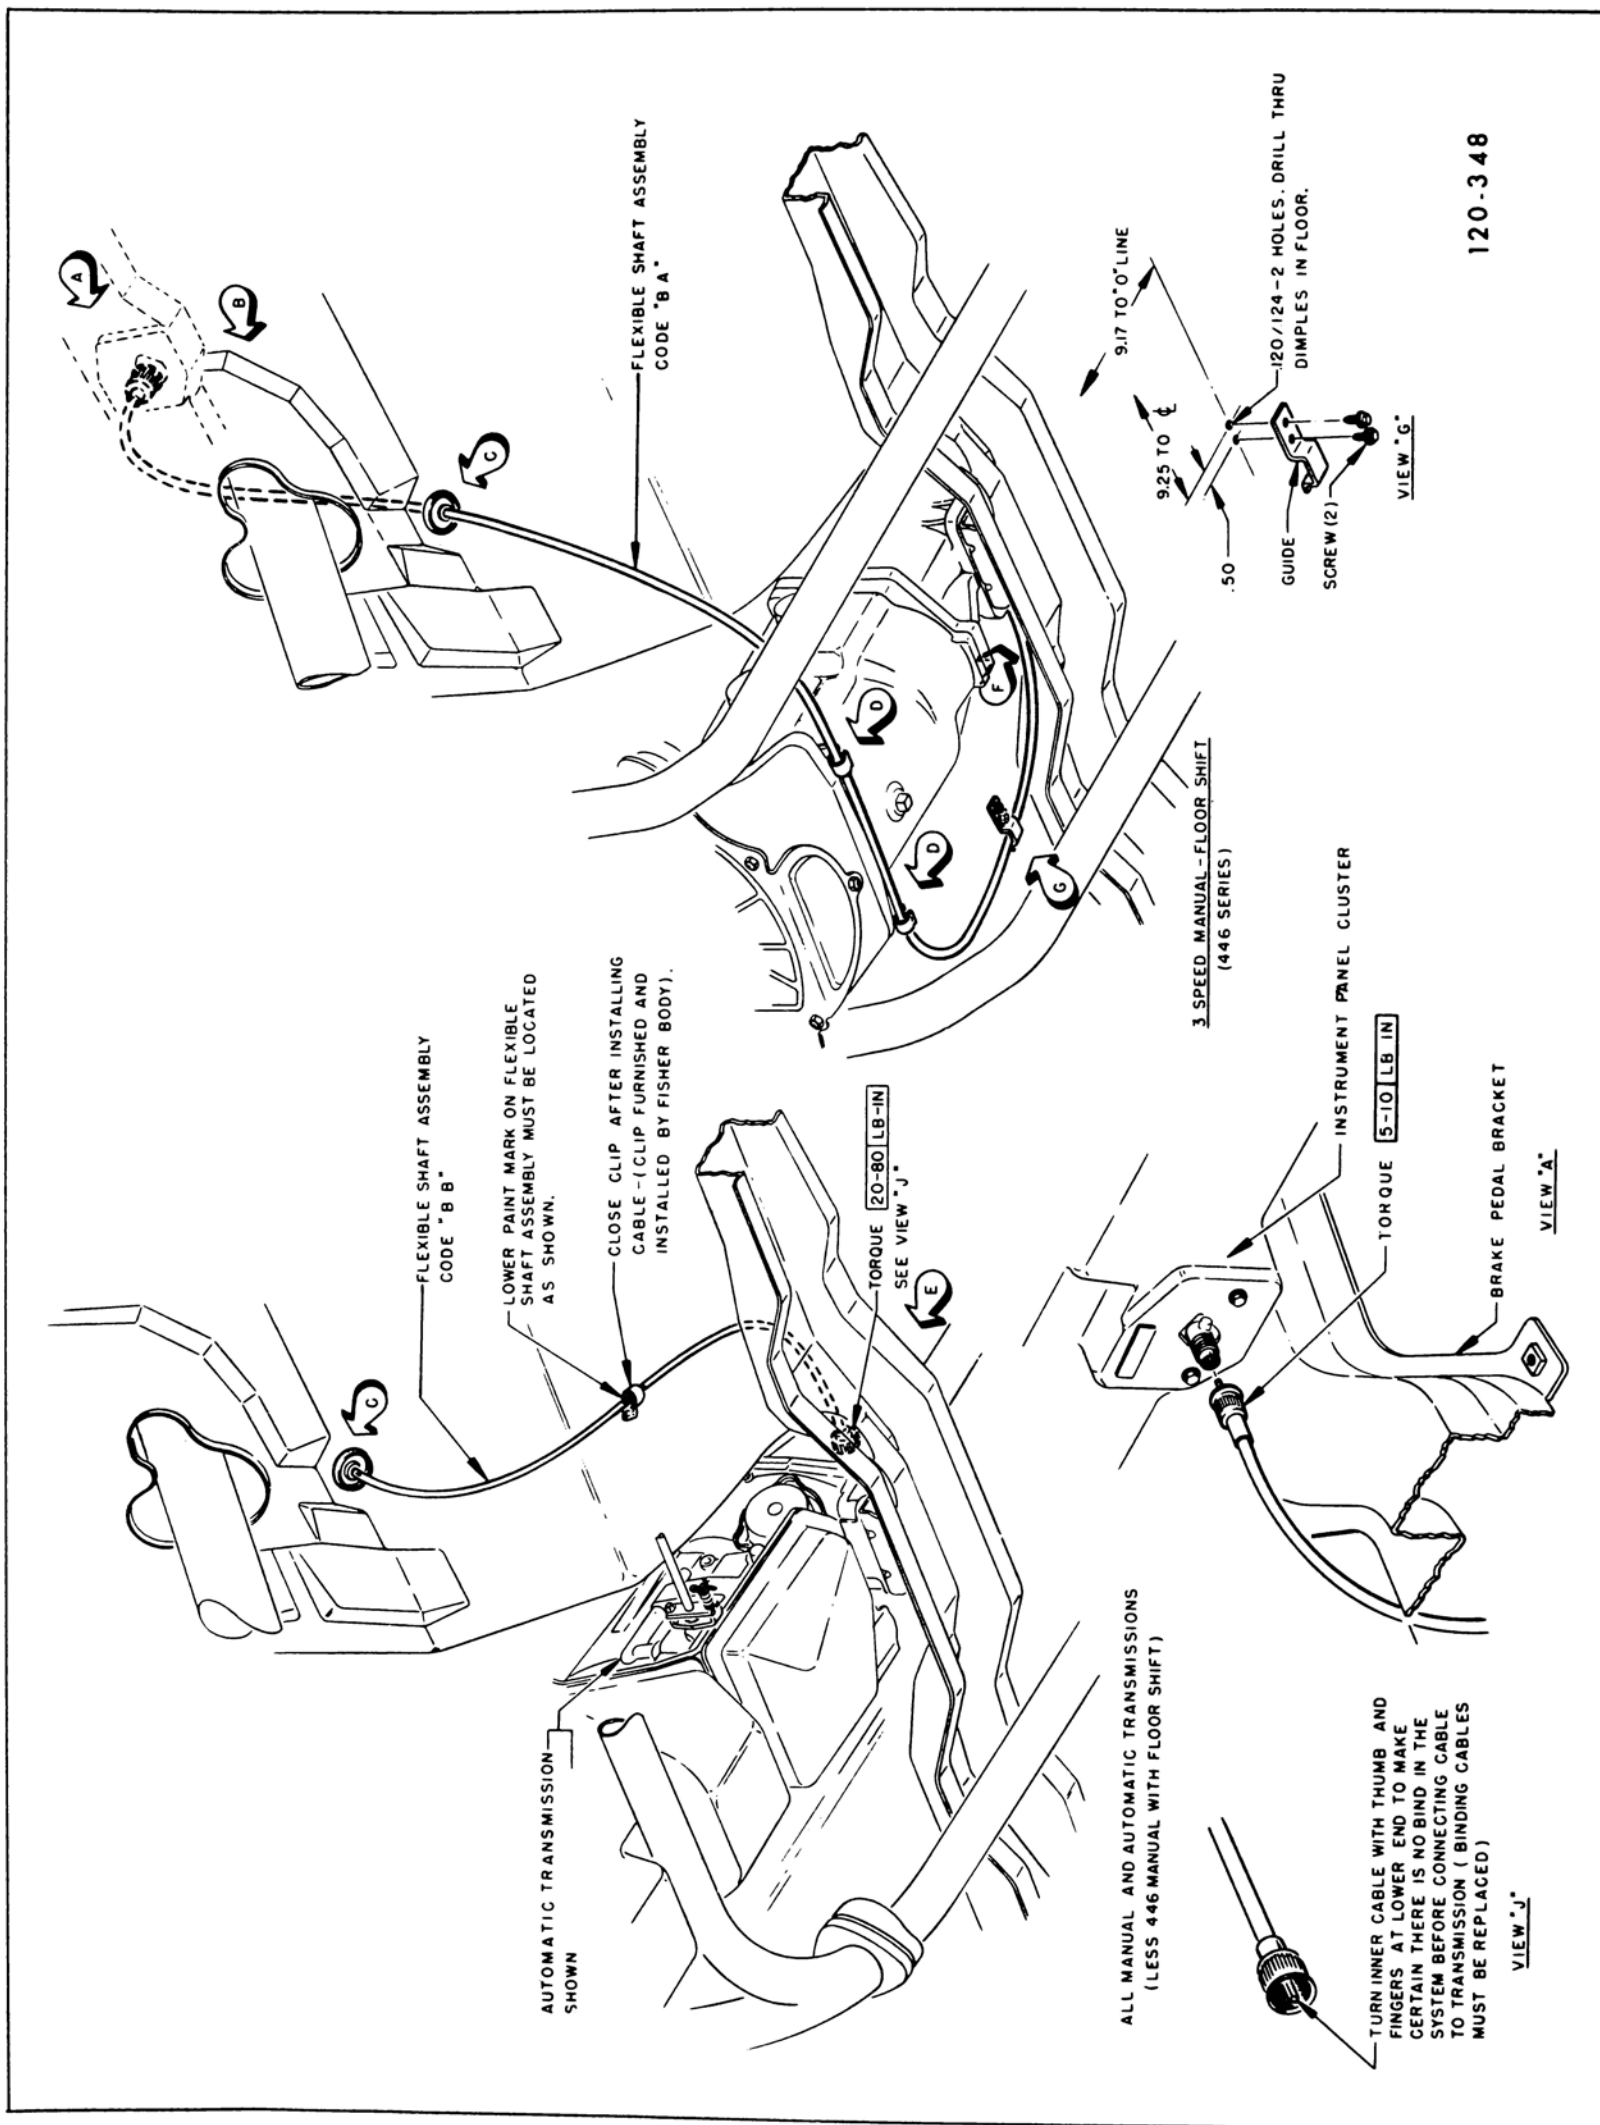

Figure 120-38—Speedometer Cable Installation 43-44000 Series Except 4-Speed Manual Transmission
5. If noise disappears with transmission stationary, check further for cause of noise by checking for proper installation of speedometer cable as shown in Figure 120-38 through 42.
If the speedometer installation appears to be noisy or the speed indicator wavers, inspect the cable casing for damage, sharp bends, for being out-of-position in the supporting clips. See Figures 120-38 through 42. If casing is in good condition and properly installed, remove inner cable for inspection. If casing is kinked, replace it.